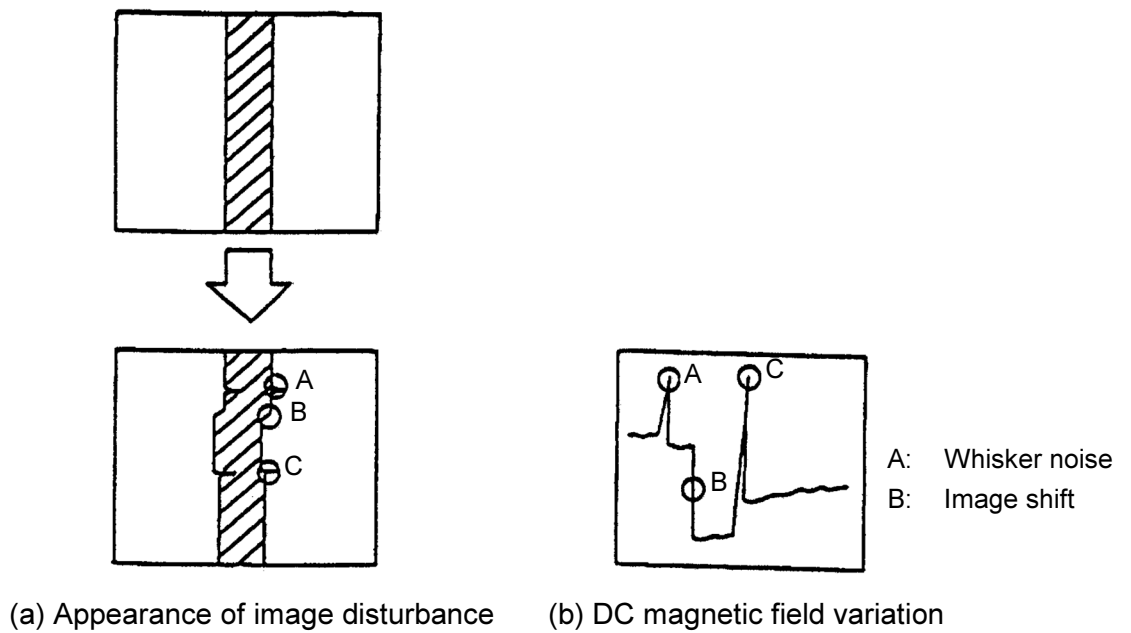

Fig. 1.2-2 Effect of Stray Magnetic Field Component Asynchronous with Power Frequency (DC magnetic field variation)
- The stray magnetic field component asynchronous with power frequency affects imaging directly. That is, movement of the electron beam due to variation in external magnetic field appears as unintentional shift or whisker noise in imaging (Fig. 1.2-2). Even a slight variation in external magnetic field may result in conspicuous irregularity of the image. The maximum allowable value of stray magnetic field component asynchronous with power frequency is specified so that CD measurement reproducibility will not be affected by image shift or whisker noise.